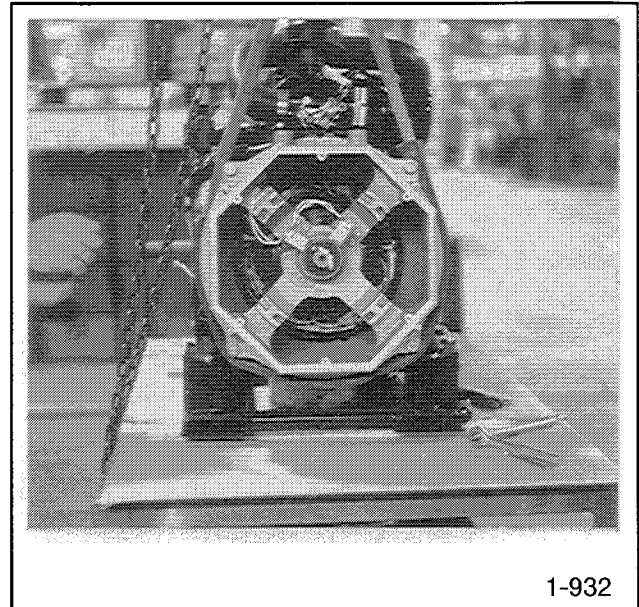

Figure 8-8. Using Hoist to Raise Generator Set
16. Place the hoist hook into the generator hoisting eye and raise generator end, see Figure 8-8. Place a wood block under flywheel housing and lower generator until housing is supported by block. See Figure 8-8.